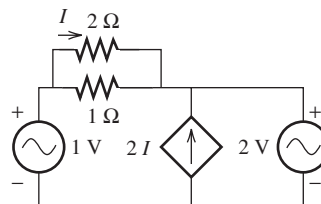

FIGURE P2.64 Circuit for Problem 2.64.
2.64 (A) In the circuit given in Figure P2.64, find the current of the dependent source.